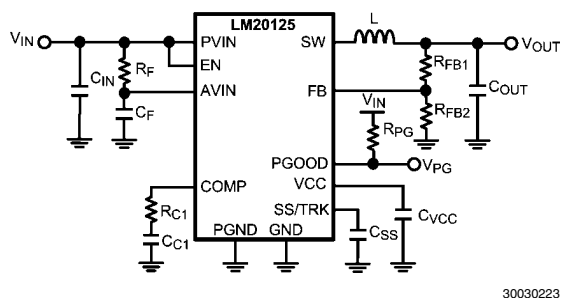

FIGURE 2. Typical Application Circuit
The LM20125 switching regulator features all of the functions necessary to implement an efficient low voltage buck regulator using a minimum number of external components. This easy to use regulator features two integrated switches and is capable of supplying up to 5A of continuous output current. The regulator utilizes peak current mode control with nonlinear slope compensation to optimize stability and transient response over the entire output voltage range. Peak current mode control also provides inherent line feed-forward, cycle-by-cycle current limiting and easy loop compensation. The fixed 500 kHz operating frequency minimizes the inductor size while still achieving efficiencies up to 96%. The precision internal voltage reference allows the output to be set as low as 0.8V. Fault protection features include: current limiting, thermal shutdown, over voltage protection, and shutdown capability. The device is available in the eTSSOP-16 package featuring an exposed pad to aid thermal dissipation. The LM20125 can be used in numerous applications to efficiently step-down from a 5V or 3.3V bus. The typical application circuit for the LM20125 is shown in *Figure 2* in the design guide.
This section walks the designer through the steps necessary to select the external components to build a fully functional power supply. As with any DC-DC converter numerous trade-offs are possible to optimize the design for efficiency, size, or performance. These will be taken into account and highlighted throughout this discussion. To facilitate component selection discussions the circuit shown in *Figure 2* below may be used as a reference. Unless otherwise indicated all formulas assume units of amps (A) for current, farads (F) for capacitance, henries (H) for inductance and volts (V) for voltages.
pins, a high frequency RC filter is required between PVIN and AVIN. These components are shown in *Figure 2* as C_F and R_F . The required value for R_F is 1Ω. C_F must be used. Recommended value of C_F is 1.0 μF. The filter capacitor, C_F should be placed as close to the IC as possible with a direct connection from AVIN to AGND. A good quality X5R or X7R ceramic capacitor should be used for C_F .